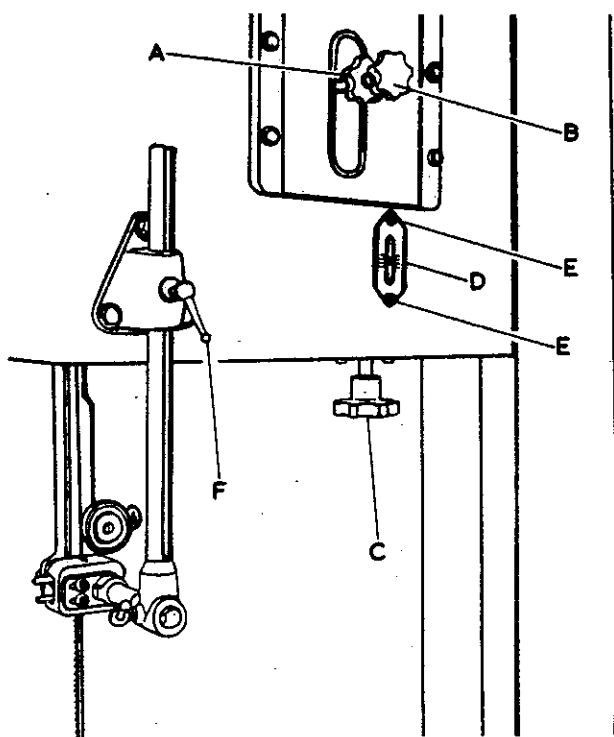

FIG. 5
2. If not running central, loosen handwheel 'A' (Fig. 5) and adjust handwheel 'B' until the saw is tracking correctly i.e. in the centre of both wheels.
To tension the sawblade turn handwheel 'C' in Fig. 5 until the correct tension is reached according to the scale 'D'. The scale gives the correct tension for the width of blade which is being used irrespective of the length of the blade.
2. Check whether the scale indicates the correct sawblade width. If scale is incorrect, loosen two screws 'E' in Fig. 5 and position scale correctly. When set tighten all screws. After the scale has been set in this manner it will read correctly for any width of blade within the range of the machine without further alteration, even if the length of sawblade varies for any given width. For a  $\frac{1}{2}$ " blade the pointer should read  $\frac{1}{2}$ " etc.